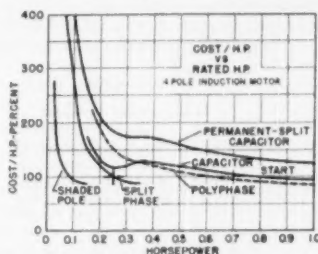

FIG. 17 RELATIVE COSTS OF INDUCTION MOTORS VERSUS RATING
The cost per horsepower of the usual motor types is presented in Fig. 17. The bench mark of 100 per cent is taken for the split-phase general-purpose motor (1/4 hp) which, of all types, is the one in largest production. It is observed that minima exist in two curves. This is real and is due to the influence of standard sizes and differing production rates. The costs shown represent full motors, but are reasonably proportionate for built-in parts (i.e., stator and rotor) as well. The costs of motors over 1 hp have been published in a recent periodical (11).